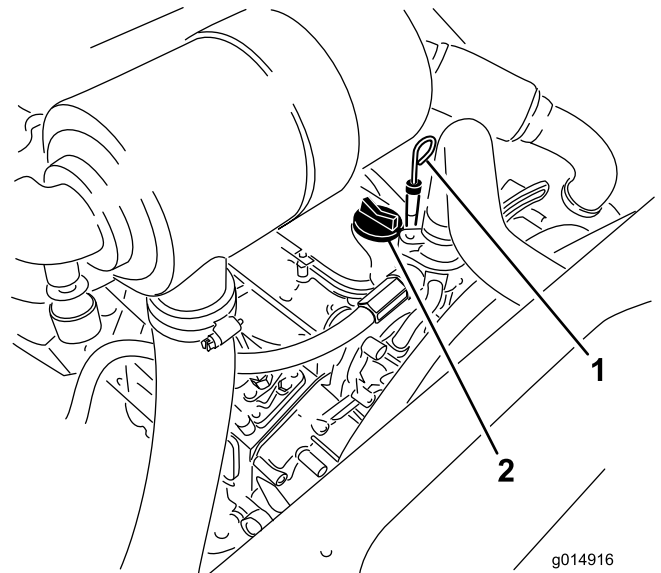

Figure 26
3. Remove the dipstick, wipe it clean, and install it (Figure 26).
- If the oil level is below the Full mark, remove the fill cap (Figure 26) and add oil until level reaches the Full mark on dipstick.